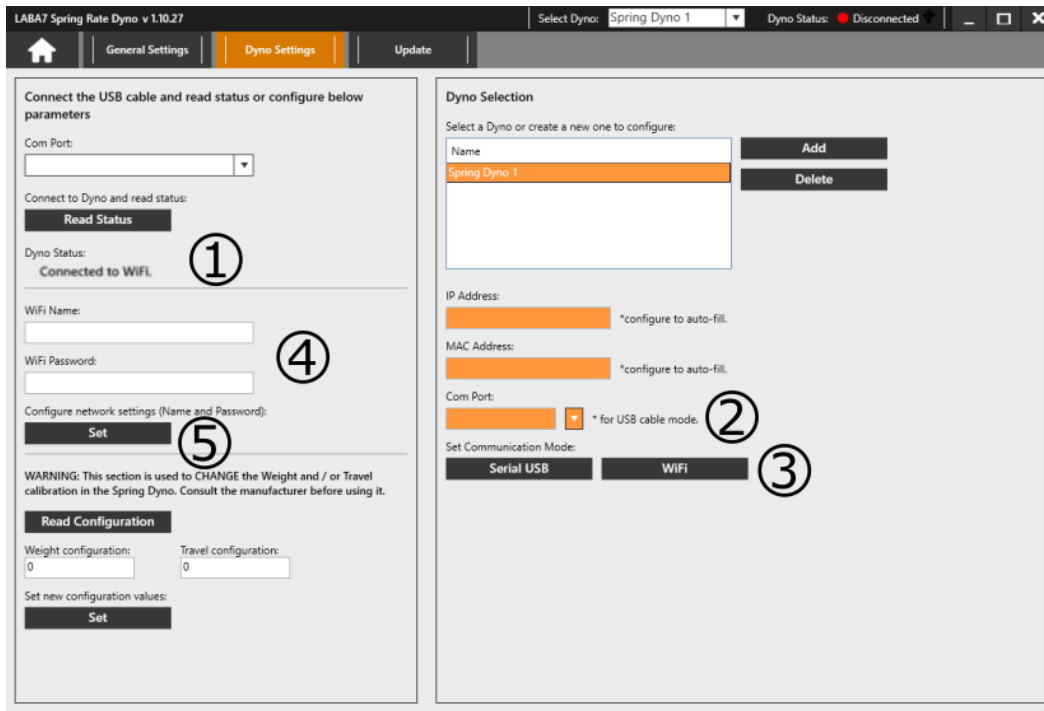

Figure 12
9. Note the Status that was received from the Dyno (Figure 12 – Step 1).
11. Select the Com Port of the connected Dyno from the drop-down menu in the Dyno Selection area (Figure 12 – Step 2).
12. Click on the **WiFi** button to enable the wireless communication mode in the Dyno (Figure 12 – Step 3).
13. Enter the WiFi name and password into the corresponding fields (Figure 12 – Step 4).
14. Click on the **Set** button (Figure 12 – Step 5).